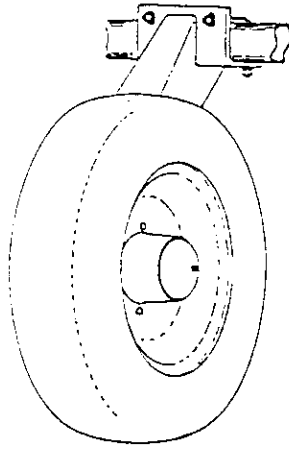

Figure B-9: Wheel Arm Assembly.
2. Position the wheel arms on the rockshaft at the desired row spacing. See Figure B-9.